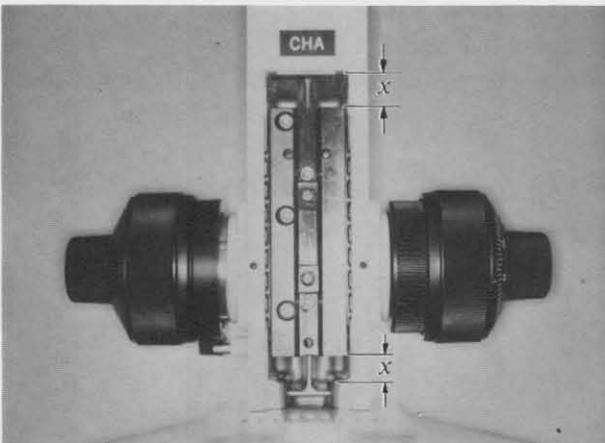

Fig. 4-40
- a) Adjust the inner guide unit to the center of its movable range. (See Fig. 4-40)